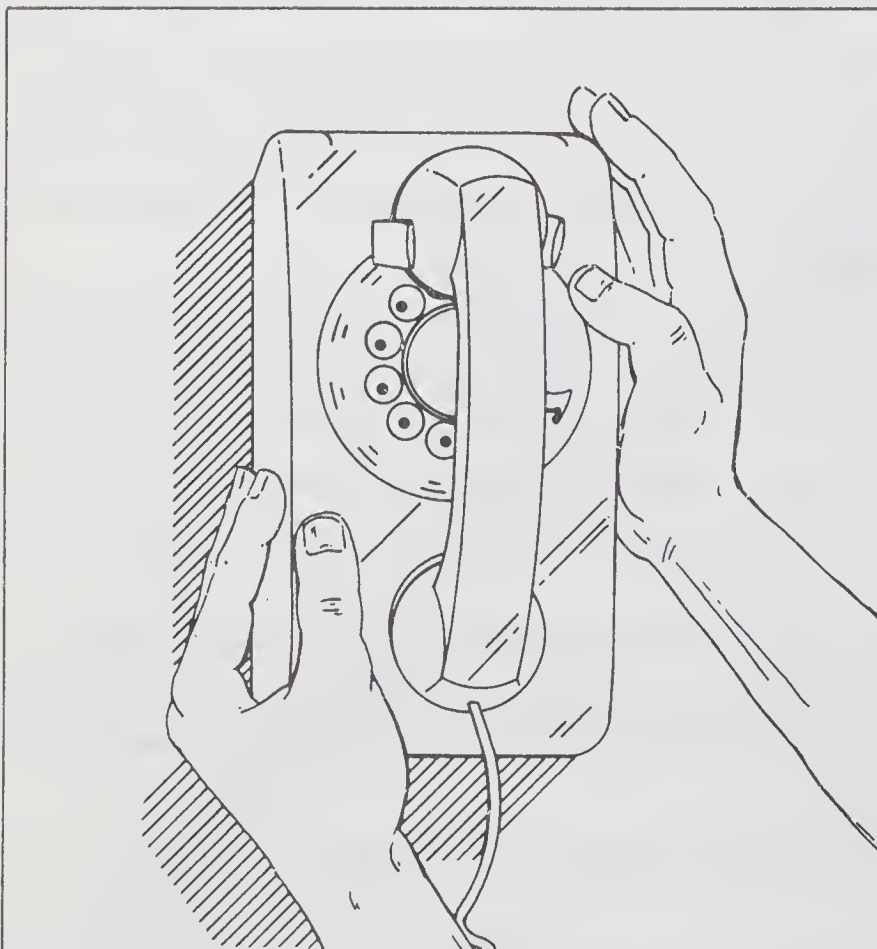

Figure 3-5.
1. To remove the rental telephone grasp the telephone as shown in *Figure 3-5* and push upward until the telephone slips from the mounting pins shown in *Figure 3-6*. Pull the telephone away from the wall plate. This disconnects the modular plug. (Some telephones have a slide clip or lever that must be released before the telephone can be slipped from the wall plate.)
3. Using the same type grip on the telephone as shown in *Figure 3-5* push down on the telephone until it is firmly in place. (Snap the slide clip or lever in place to lock the telephone for those telephones that have them.)